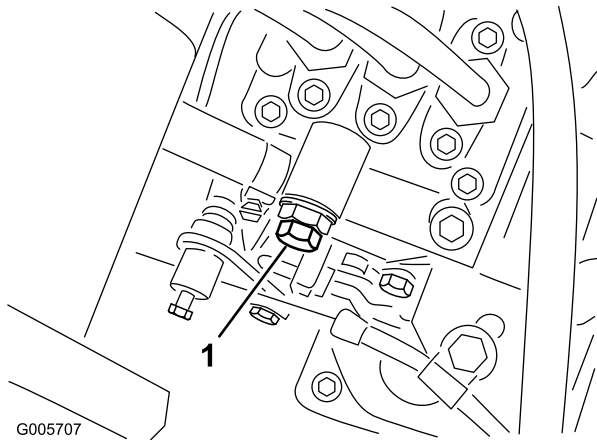

Figure 33
3. Open the air bleed screw on the fuel injection pump (Figure 33).